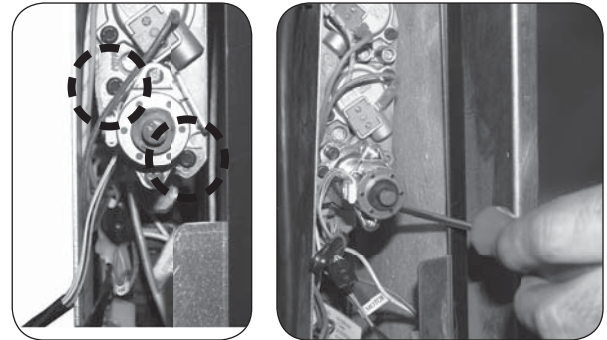

Fig. 2-2 Remove screws
2. Using a Torx T20 bit, or slotted screwdriver, remove **and discard** the 2 pressure regulator mounting screws (see Fig. 2-2).